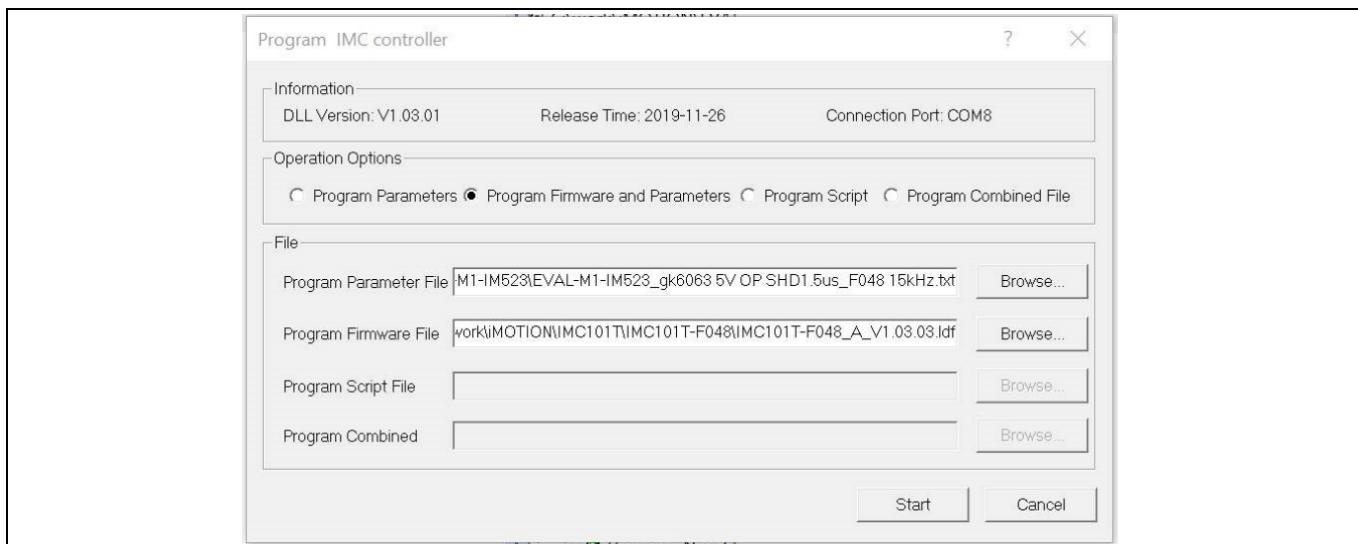

Figure 8 MCEDesigner’s program page
- b) Click **Tools > Programmer** and select Program Firmware and Parameters, as shown in Figure 8.